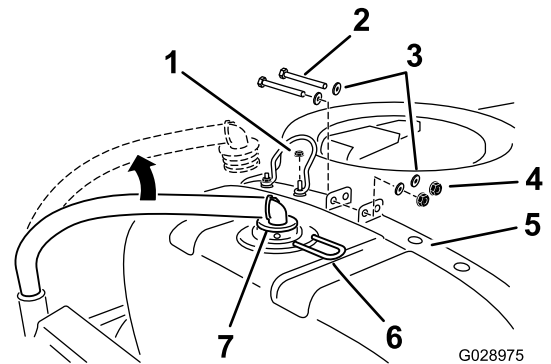

Figure 7
4. Disconnect the supply hose at the rear and top of the main tank (Figure 7).
5. Remove the fork pin that secures the fitting and then remove the hose (Figure 7).
7. Remove the inboard locknut that secures the tank-lid stop to the rear, left strap (Figure 7).